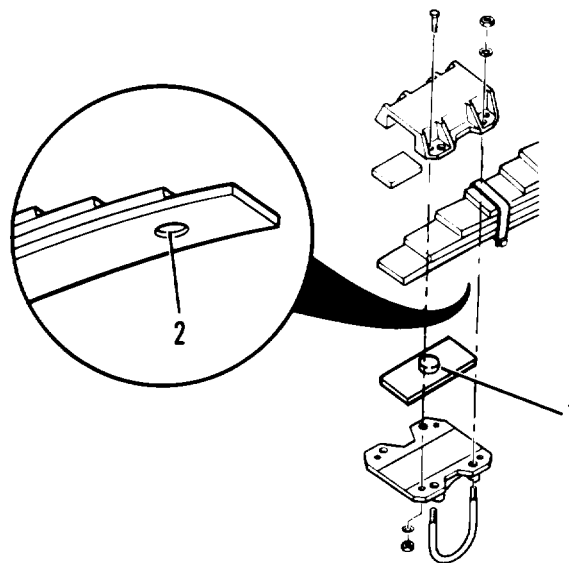

Figure 5-3. Adjustment plate
- (3) Install wheels, tires, slack adjusters and air brake chambers (see Chapter 4).
- (4) Install axle from the front of the semitrailer.
- (5) On both sides of the axle, align raised surface of adjustment plate (1, figure 5-3) with recessed area on the underside of spring assembly (2).
- (4) Install axle from rear of the semitrailer.
- (5) On both sides of axle, align raised surface of adjustment plate (1, figure 5-3) with recessed area on the underside of spring assembly (2).